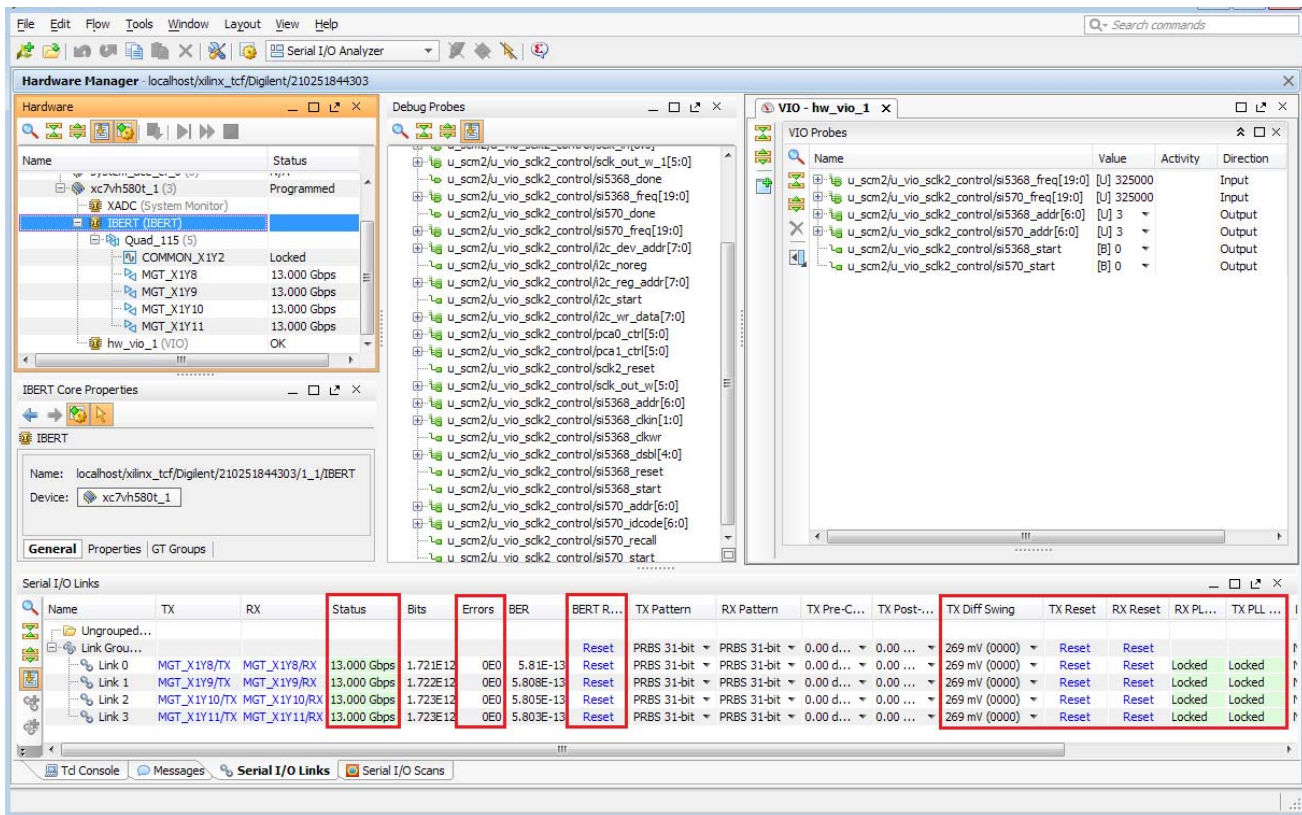

Figure 1-19: Serial I/O Analyzer Links
After completing step 6 in Starting the SuperClock-2 Module, the IBERT demonstration is configured and running. The status and test settings are displayed on the Links tab in the Links window shown in Figure 1-19.
- The line rate for all four GTH transceivers is 13.0 Gb/s (see the Status column in Figure 1-19).